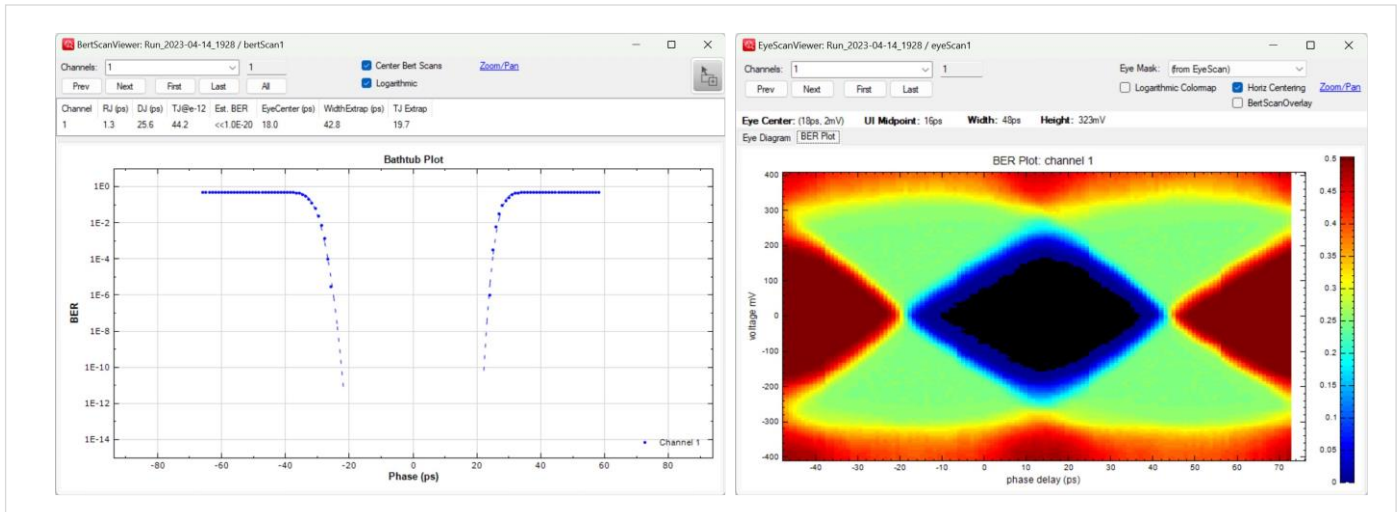

Figure 18: Results of BertScan and EyeScan tests in the Pinetree default viewers
- d) In the most recent versions of Pinetree, you may “Right-Click” on the test results described above and select “Open with Default Viewer”. This will bring up plots such as those shown in on the following page in Figure 18, which allow for rapid evaluation of the signal received by the SV7C.